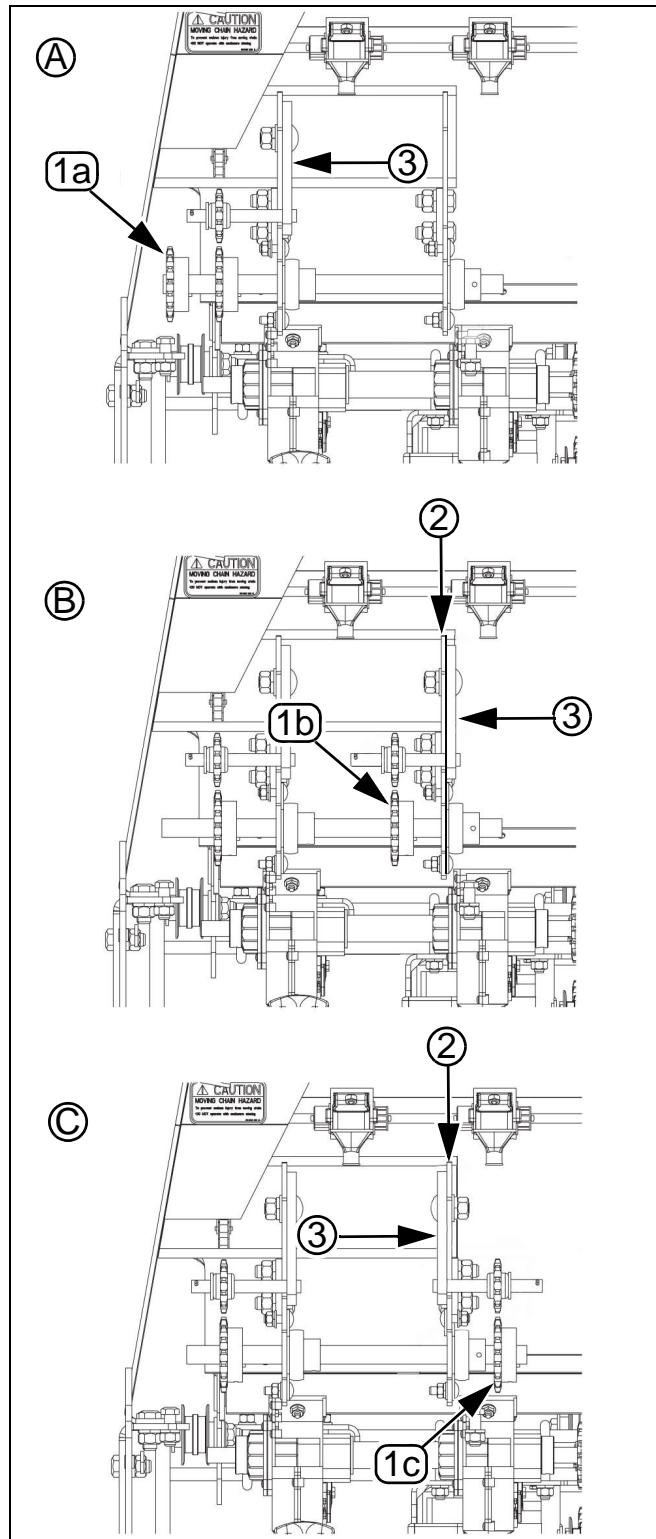

Figure 4
4. Install two idler rollers ⑤ onto the left side of the jackshaft mount at the cutout slots using the HHCS bolts ⑦, spacers ⑥, washers ④, and flanged lock nuts ③.
5. Slide the 40C12 x 7/8 hex bore sprocket ⑯ onto the end of the jackshaft protruding from the left side of the auxiliary jackshaft mount. Insert roll pins ⑰ into the end of the auxiliary jackshaft, and to the right side of the bearing mounted on the auxiliary jackshaft mount.
6. Align 12-tooth sprocket ⑯ with 12-tooth sprocket on small seeds box by sliding jackshaft mount right or left. Tighten U-bolts when aligned.
7. Slide the 40C22 x 7/8 hex bore sprocket ⑭ and lock collar ⑯ up against the bearing mounted on the gearbox mount side plate. Tighten each set screw ⑯.
8. Install 40B19 x 36T spline bore sprocket ② onto gearbox and fasten with snap ring ①.
9. Route the RL #40, 70PT chain ⑮ onto the drive gear sprocket ② and the small seeds box auxiliary shaft sprocket (item ④ in Figure 4.). Adjust idler ⑤ to remove chain slack.
Refer to Figure 4